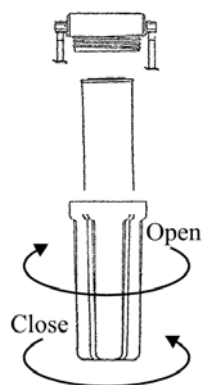

Figure 6
2. Open the filter housings. Use one hand to hold the system and the other hand to turn the housing clockwise to open (Figure 6).
Open the bottom housings of the purifier (Figure 6) and place each of the filters in the corresponding housing according with the labels. Open the membrane housing from the right side, and insert the membrane through the double O-ring side; push gently (both O-rings must enter a hole located inside the housing). Close all housings. Connect the yellow